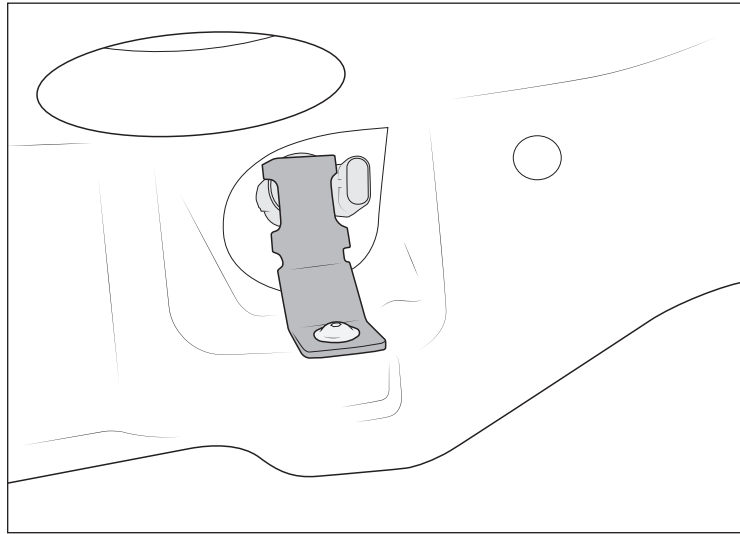

Figure 8
4. Install sensors to corner tanks using provided brackets and M6 bolts and washers. Make sure sensor is centered in hole and fully seated, then torque bolts to 8 lb-ft (fig. 8).